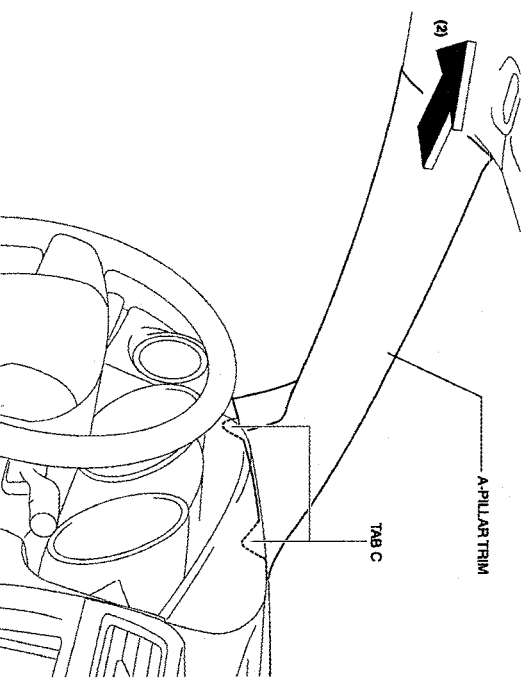

FIGURE 24
- 3.) PULL THE A-PILLAR TRIM IN THE DIRECTION OF THE ARROW (2) AND REMOVE THE A-PILLAR TRIM WHILE DETACHING TAB C. (SEE FIGURE 24)